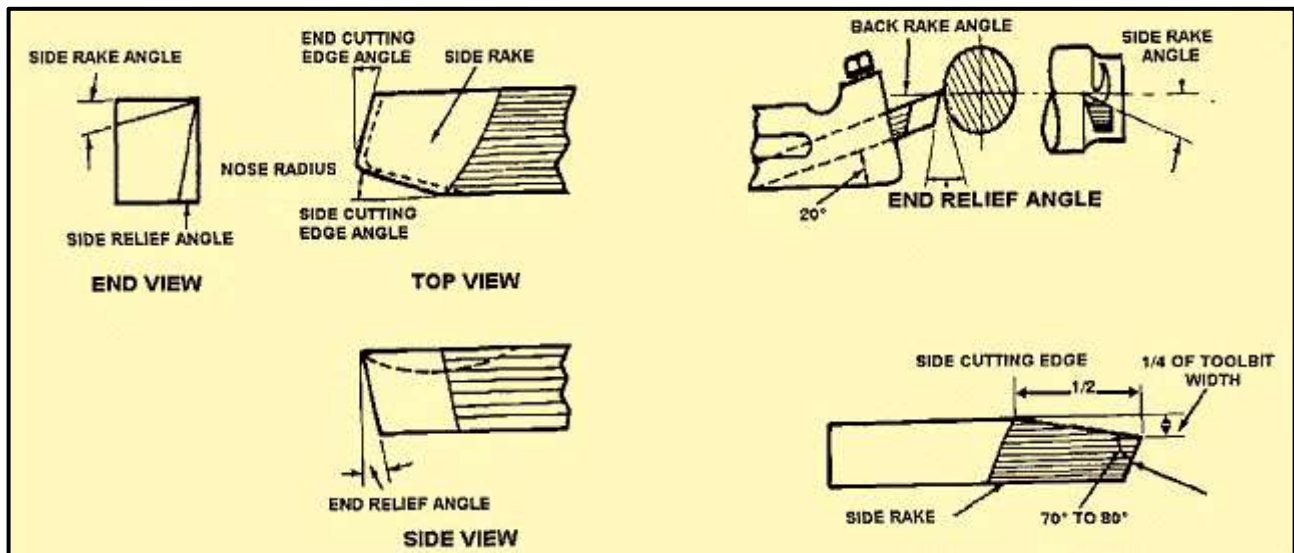

Figure 7-4. Tool bit angles.
**Single Point Tool Bits:** Can be one end of a high-speed steel tool bit or one edge of a carbide or ceramic cutting tool or insert. Basically, a single point cutter bit is a tool that has only one cutting action proceeding at a time. A machinist or machine operator should know the various terms applied to the single point tool bit to properly identify and grind different tool bits (Figure 7-4).
**Angles of Tool Bits:** The successful operation of the lathe and the quality of work that may be achieved depend largely on the angles that form the cutting edge of the tool bit. The angles are the side and back rake angles, the side and end cutting edge angles, and the side and end relief angles. Other angles to be considered are the radius on the end of the tool bit and the angle of the tool holder. After knowing how the angles affect the cutting action, some recommended cutting tool shapes can be considered. (Figure 7-4).
**Rake Angle:** Is the top surface of the tool bit, and can be **positive, negative, or have no rake angle** at all. There are **two types** of rake angles: the side and back rake angles. The tool holder can have an angle, known as the tool holder angle, which averages about  $150^\circ$ , depending on the model of tool holder selected. The tool holder angle combines with the back rake angle to provide clearance for the heel of the tool bit from the workpiece and to facilitate chip removal. (Figure 7-4).